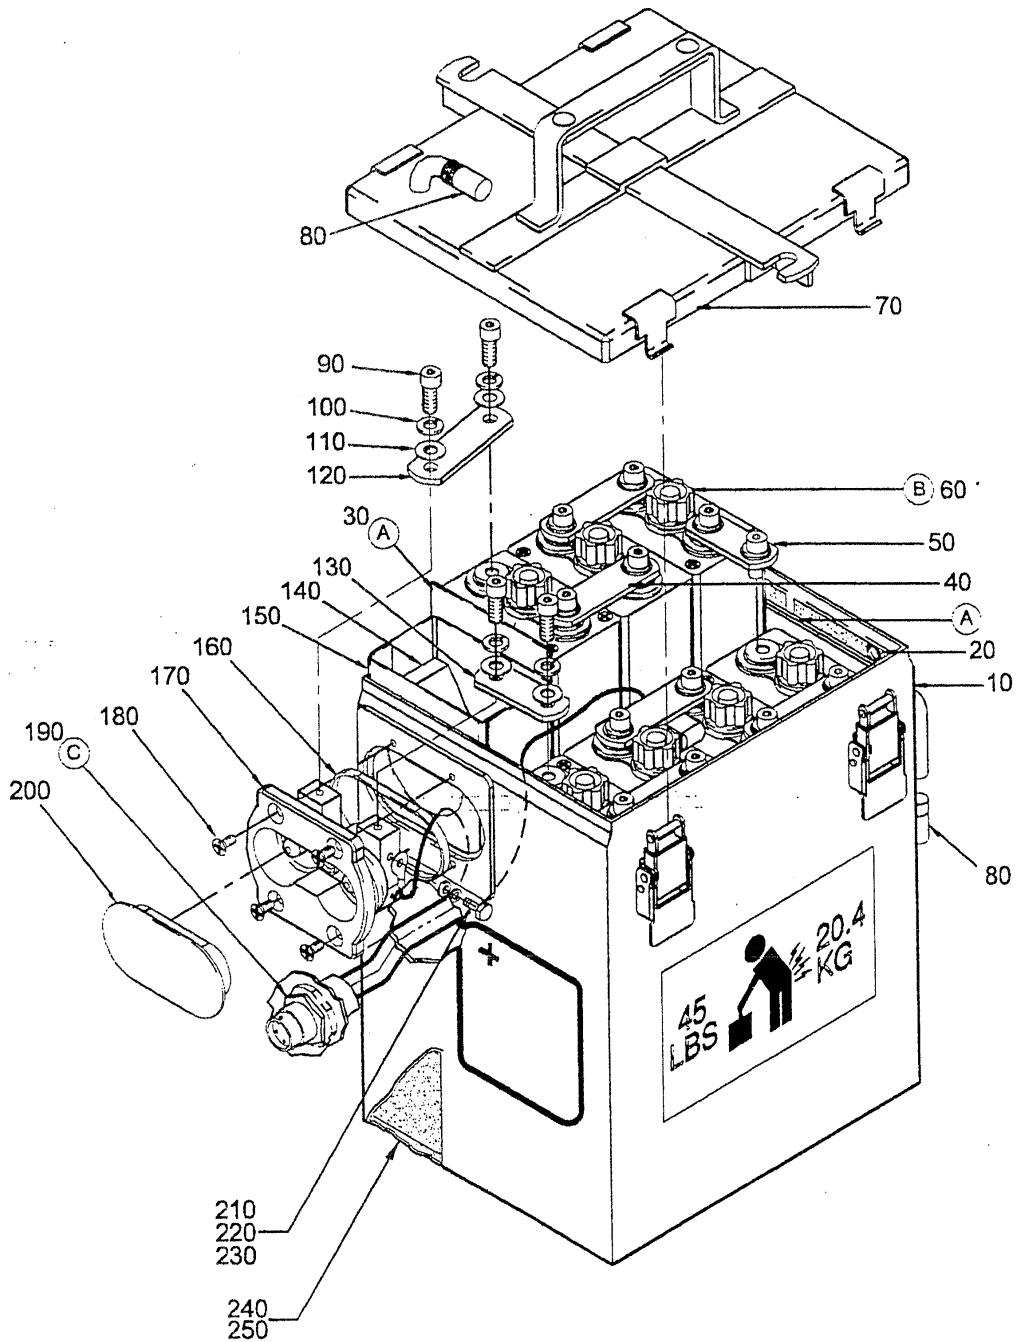

Figure 1
This section gives the procedures that are necessary for an experienced shop mechanic to disassemble, modify, and assemble batteries with no specialized training. Component part locations are shown in Figures 1 or 2, as applicable.
2. Disassembly Procedure (Figures 1 and 2)
4. Assembly Procedure (Figures 1 and 2)
This procedure gives instructions to install the new cells and to assemble the battery. Special tools are required for assembly (ref. SPECIAL TOOLS, FIXTURES, AND EQUIPMENT, CMM 24-34-05, Marathon Document Number CMM32364). Component part locations are shown in Figure 1 or 2, as applicable.